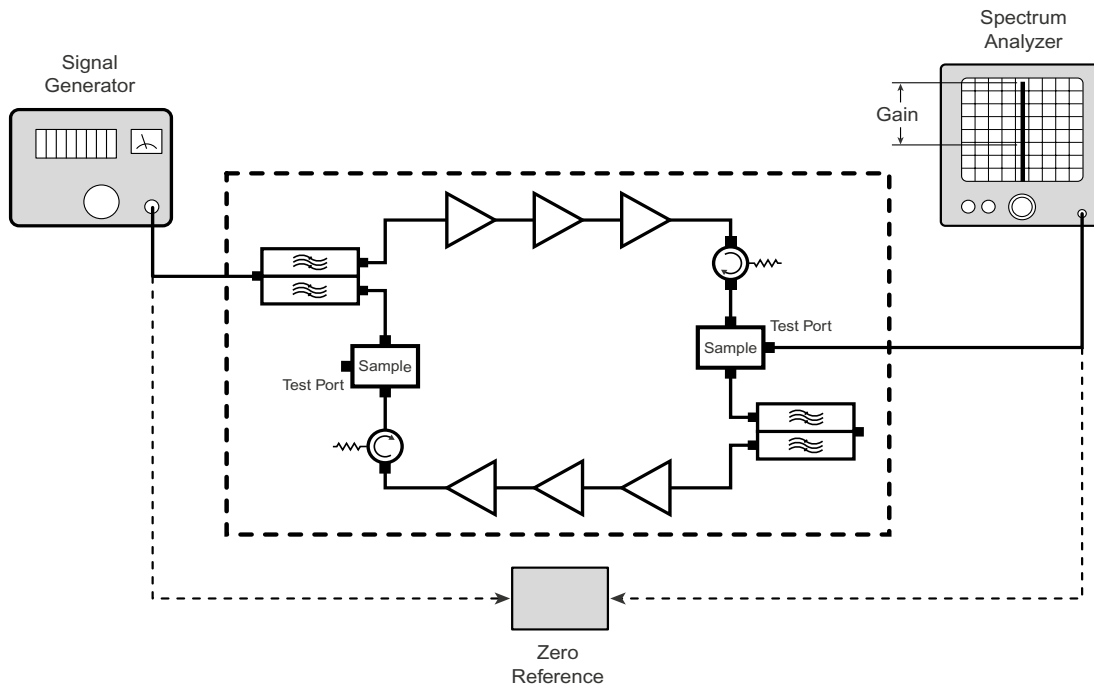

Figure 8: Measuring signal booster gain.
- 1) Measure the gain of the signal booster being careful not to exceed the maximum input level. **Figure 8** shows this being done using a signal generator and spectrum analyzer. Record the measured values for each passband. We recommend that a 50 ohm load be connected to the unused RF port on the bottom of the cabinet during the gain test.